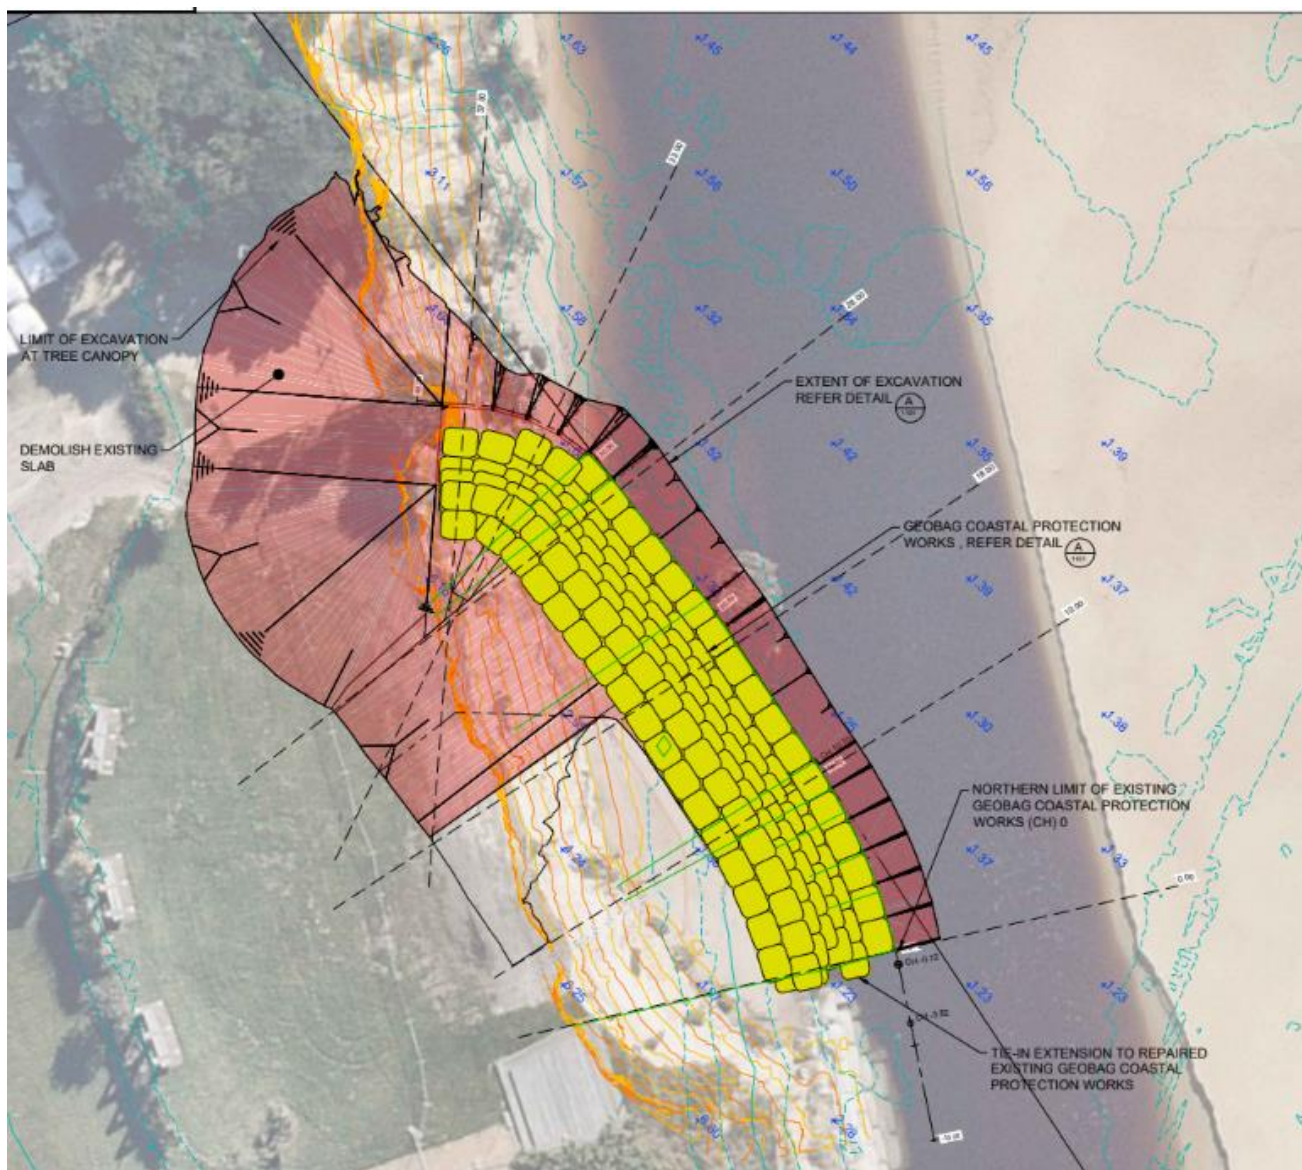

Figure 1. Works Zone constructed from above proposed geobag wall and Staging Area at existing geobag stockpile.
- A staging area is to be established, landward of the proposed seawall extension, within Lot 1 DP215893. See Figure 1.
- A construction batter area of 1v:2h, or suitable equivalent benching area, is to be prepared for safe work access from behind the seawall. See Figure 1 & Figure 2.